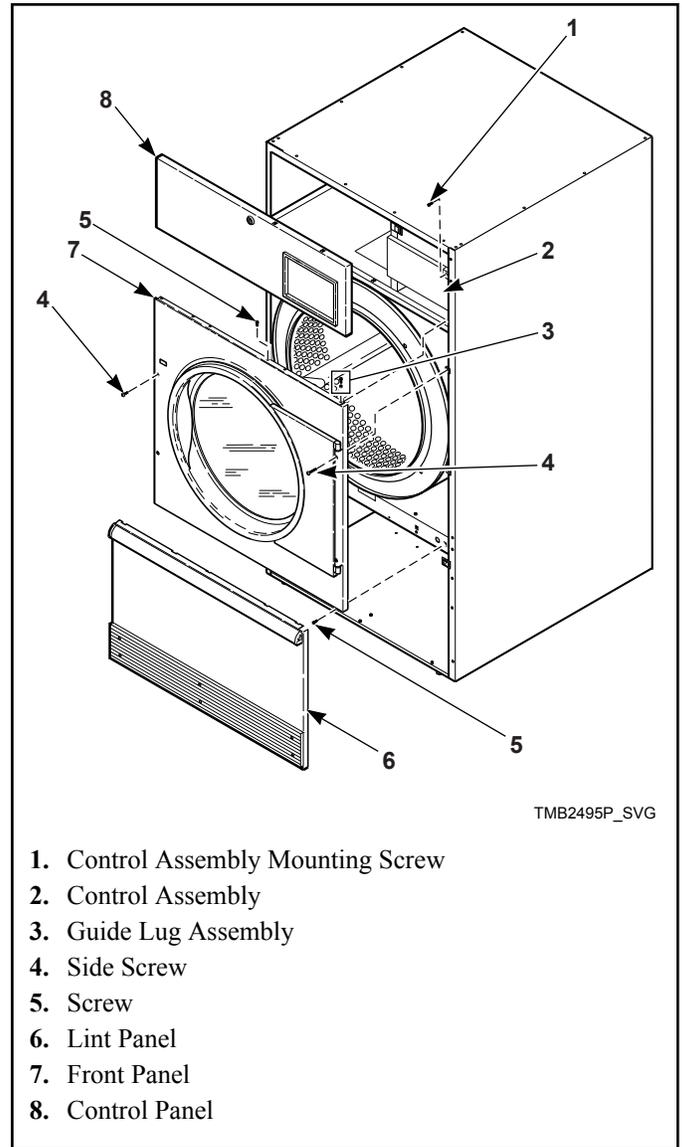

Figure 7
2. Unlock and remove control panel. Remove two control assembly mounting screws from right side. Swing open control to access upper flange right guide lug assembly. Refer to Figure 7.
4. Remove four front panel screws. Refer to Figure 7. Keep door hinge cams in place on door hinge lug. Pull lug and door assembly off as one piece. Refer to Figure 8.
5. Remove remaining front panel screws. Refer to Figure 7. Disconnect door switch harness from switch. Take off front panel. Refer to Figure 8.